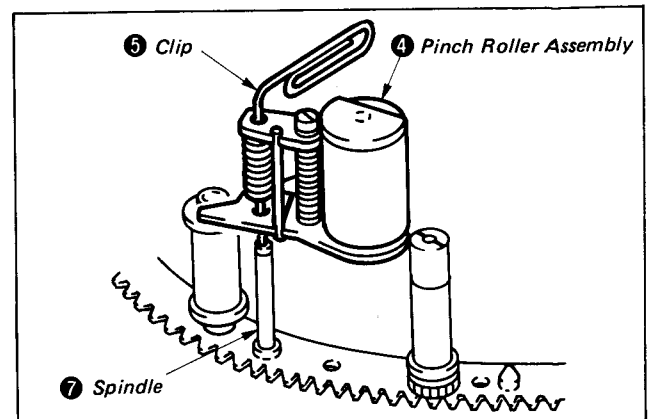

Fig. 1-25
- 3) Recontact the loading ring assembly spindle **7** with the tip of the clip **5** and fit the pinch roller assembly **4**. (See Fig. 1-25 and 26.)